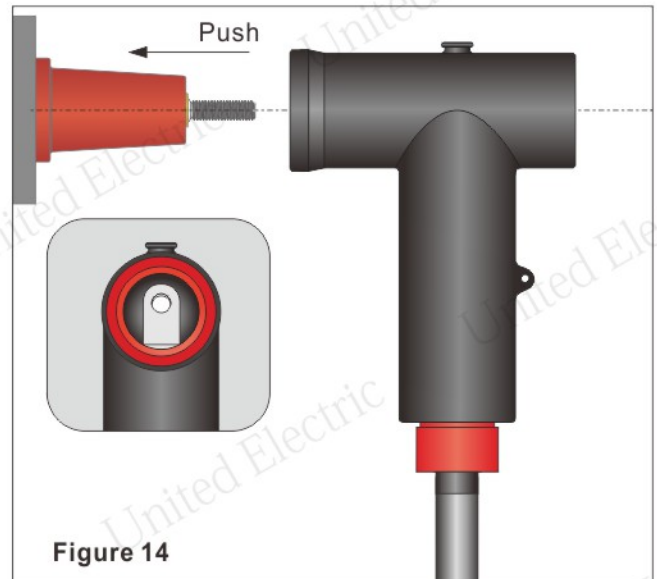

Figure 14
- Align the eye of the cable lug with the threaded stud and push the screened connector CJB20-630 onto the bushing. (Figure 14)